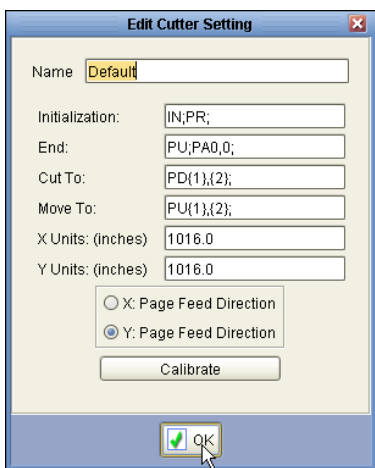

Figure 9—Edit Cutter Settings
6. In the Device Settings area, select the **Default** cut setting, and click **Configure**. This opens the Edit Cutter Settings dialog (see Figure 9). These settings are the cutting equivalent to Quick Sets.